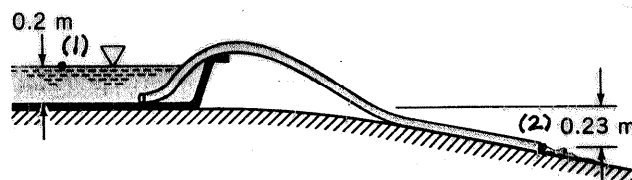

FIGURE P3.43
3.43 A smooth plastic, 10-m-long garden hose with an inside diameter of 20 mm is used to drain a wading pool as is shown in Fig. P3.43. If viscous effects are neglected, what is the flowrate from the pool?